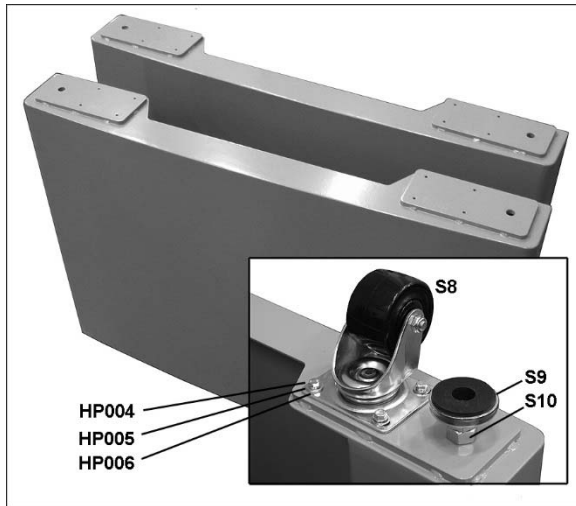

Figure 7-9
1. Thread a nut (S10) onto each leveling foot (S9, Figure 7-9).